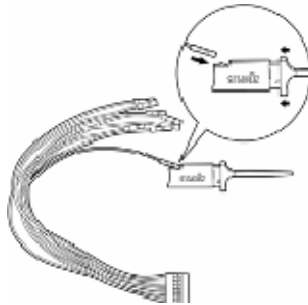

Fig. 2-8
- 3-1. Take the loose end of the cable and insert it into the clip (Fig. 2-8).
- 3-2. Compress the probe as shown to reveal two metal prongs (Fig. 2-8).